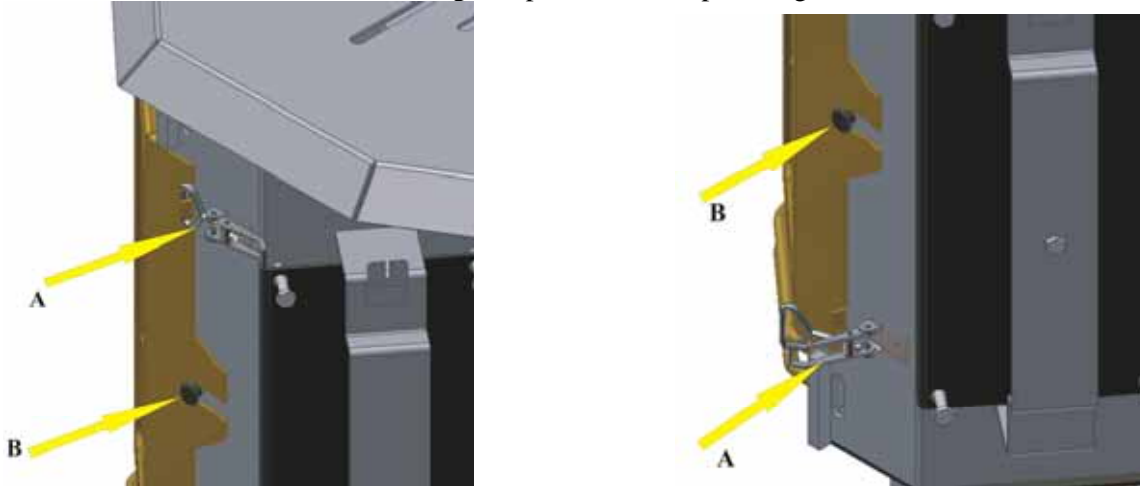

FIGURE 23: DOOR INSTALLATION
2. Unlock four door latches (2 each side), refer to door installation section and FIGURE 23.
The door is installed or removed by closing or opening four door latches, two on each side of the Bayvue DV. FIGURE 23 shows a split view of the door latch and door guide system. FIGURE 23 left view; Item A shows the top door latch in its closed position. FIGURE 23 right view; Item A shows the bottom door latch in its open position. Each latch has an adjustment screw to ensure a good tight latch can be obtained which in turn will ensure proper sealing of the door to the Bayvue DV. FIGURE 23, Item B shows the guide pin that is located on each side of the Bayvue DV to assist in proper location of the door assembly. Never operate the stove with the door open. Correct Bayvue DV operation requires the door assembly be mounted to the stove and locked during all operations, except during maintenance.